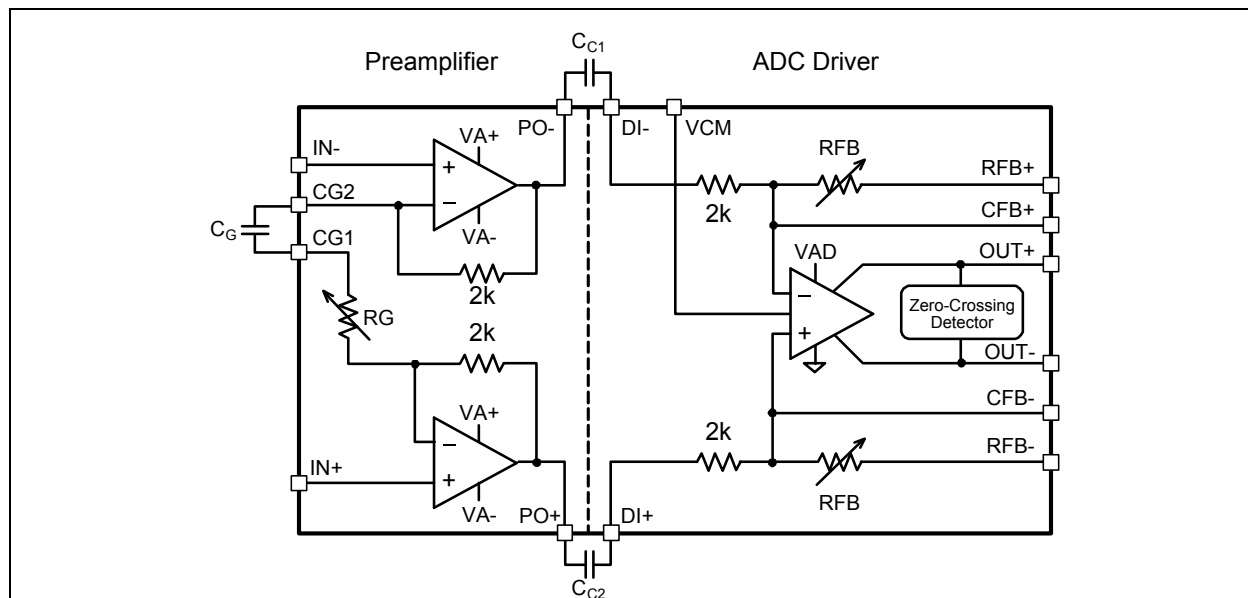

Figure 12. Analog Section Functional Block Diagram
The preamp stage consists of a low-voltage-noise current-feedback differential amplifier with gain programmed by an array of resistors and CMOS switches that makes up RG. See Figure 12 for detail of one of the two channels. The RG resistor/switch array is programmed via the SPI digital control interface. The resulting gain varies from 0 dB to 39 dB in 3 dB steps (in the 6261 and 6263) or 6 dB steps (6266). The preamp feedback resistors have a nominal value of 2 k $\Omega$ . The RG values with the corresponding gains for THAT 6261, 6263 and 6266 are listed in Table 2.
The preamp gain-setting resistor (RG) and ADC driver feedback resistor (RFb) values (Figure 12) with the corresponding gains for THAT 6261, 6263 and 6266 are listed in Table 2.